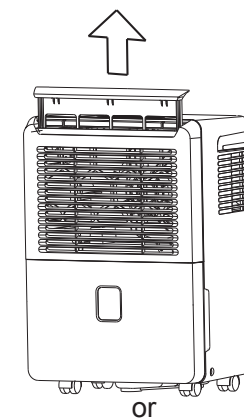
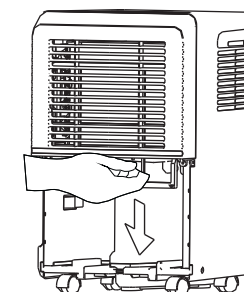

Fig. 6
Fig. 7
- Remove the filter from the top of the unit (Fig. 6), or the bottom after removing tank (Fig. 7).